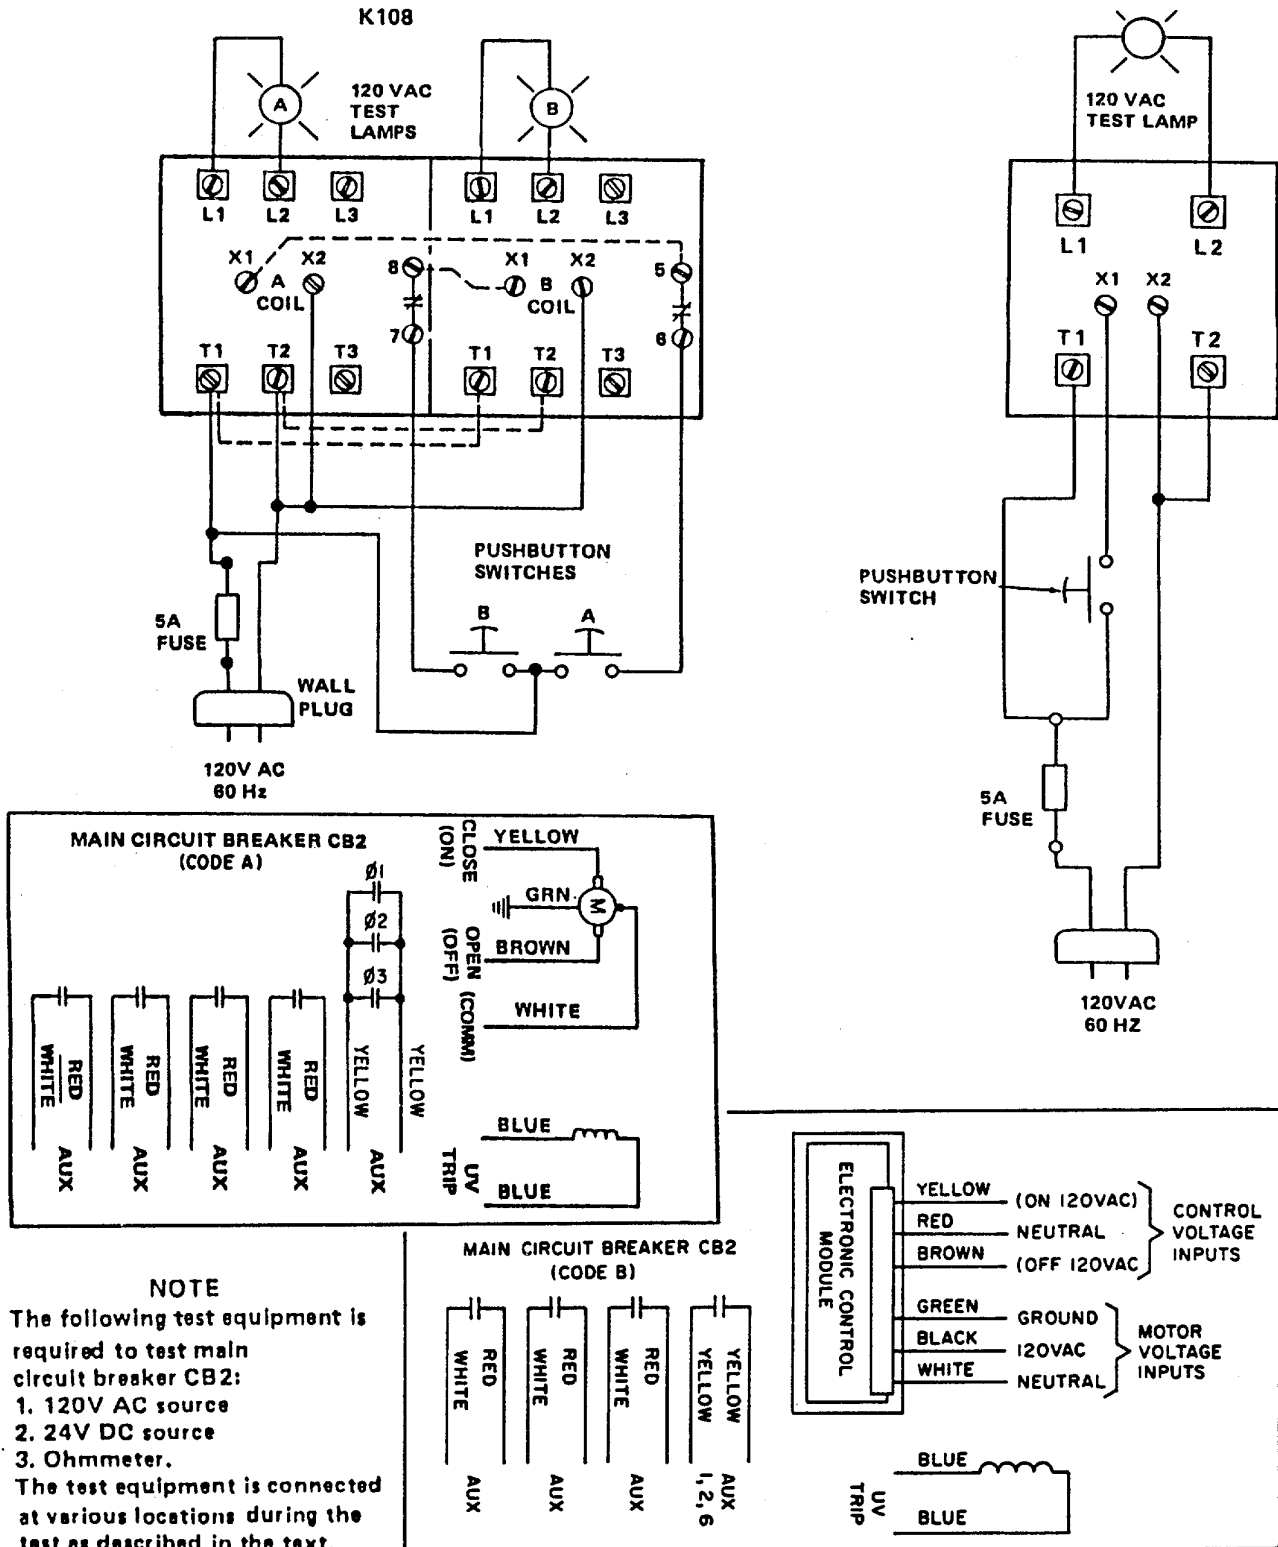

Figure 4-14. Contactors K107, K108, K109 and Main Circuit Breaker CB2, Schematic
- (1) Wire contactors K107 and K108 into test set-up as shown in figure 4-14.
- (2) Plug test set-up into 120V AC power supply.
- (3) Observe that neither of the 120V AC test lamps light.
- (4) Depress and hold pushbutton A; lamp A should light and lamp B should remain extinguished.
- (5) Release pushbutton A and depress and hold pushbutton B; lamp A should extinguish and lamp B should light.
- (6) Depress and hold pushbutton A and then also depress and hold pushbutton B; note that transfer does not take place.
- (7) Wire contactor K109 into test set-up as shown in figure 4-14.
- (8) Plug test set-up into 120V AC power supply.
- (9) Observe that test lamp does not light.
- (10) Depress and hold pushbutton; test lamp should light.
- (11) Release pushbutton; test lamp should extinguish.
- (12) Refer to next higher maintenance for repair of any defective contactors.
- (2) Disconnect buss bars (40, 41, and 42) by removing bolts (37) and screws (35), washers (38) and nuts (39).
- (3) Free upper set of circuit breaker buss bars by removing fastening hardware.
- (4) Remove circuit breaker CB2 (44) from enclosure (99) by removing eight screws (38).
- c. Test. Refer to figures 4-14 and 4-15 and proceed as follows: